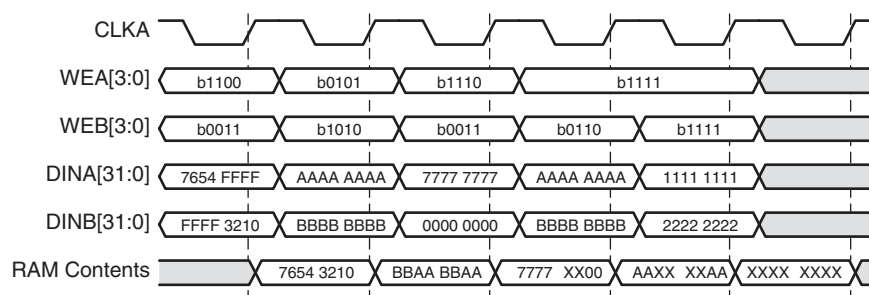

Figure 15: Write-write Collision Example
- **Using Byte-Writes.** When using byte-writes, memory contents are not corrupted when separate bytes are written in the same data word. RAM contents are corrupted only when both ports attempt to write the same byte. **Figure 15** illustrates this case. Assume ADDR_A = ADDR_B = 0.